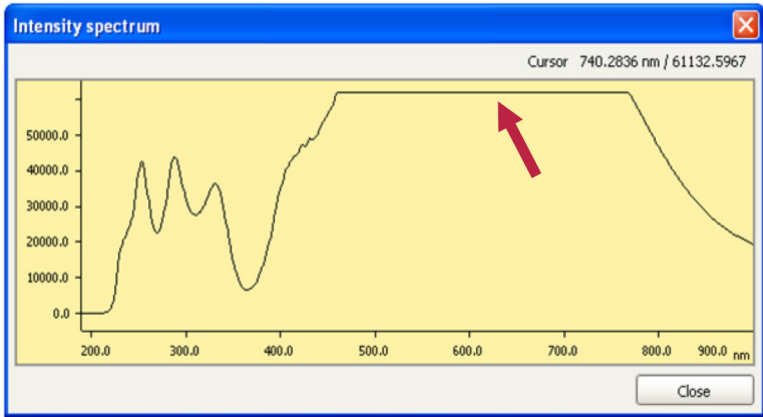

Figure 12 Lamp intensity too high
If the intensity spectrum is cut off like the one in Figure 12, then the lamp settings must be adjusted (see chapter 6.6, page 28).
- After initial start-up, if the the check of the intensity spectrum shows a cut-off (*see figure 12, page 22*).
- After having replaced the UV lamp (*see chapter 6.4, page 25*) or the VIS lamp (*see chapter 6.5, page 28*), if the check of the intensity spectrum shows a cut-off (*see figure 12, page 22*).
- The intensity spectrum has been checked and shows a cut-off (*see figure 12, page 22*).